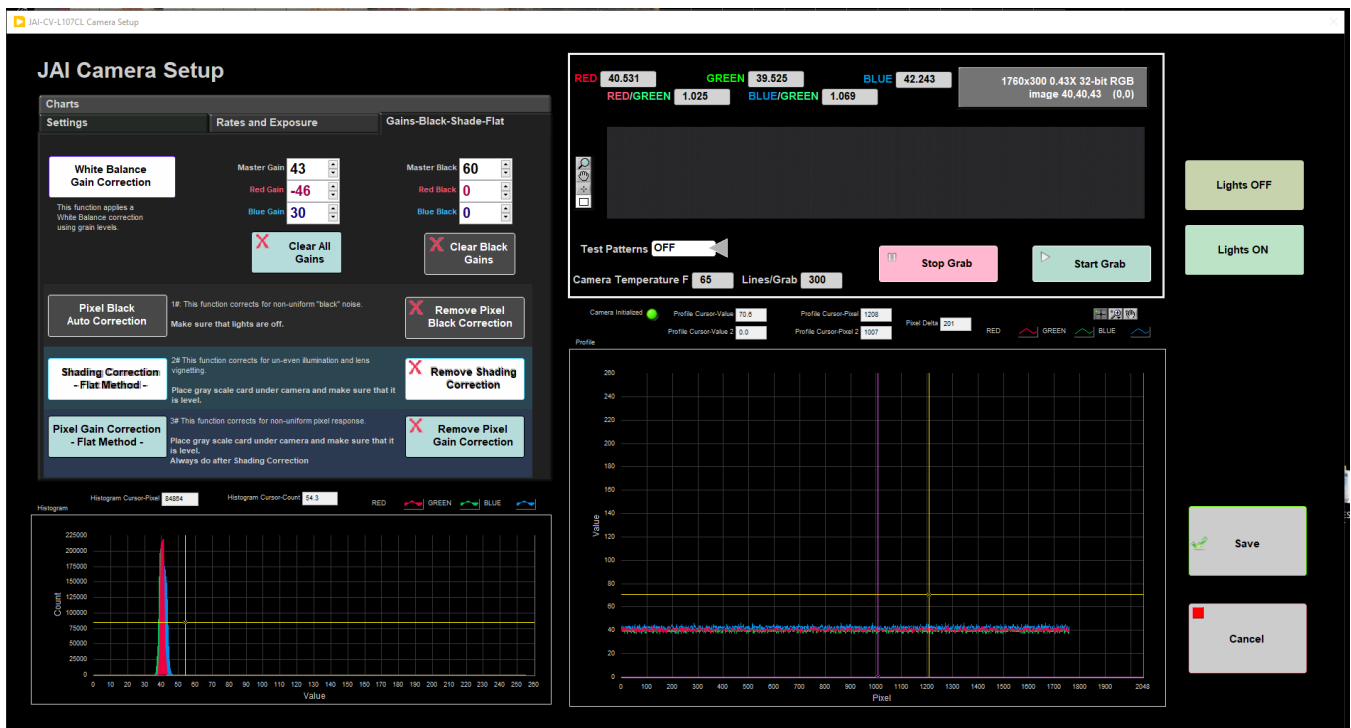

Figure 27. Image grab and profile after the Shading Correction has been applied.
6. Click the **Shading Correction - Flat Method** button. This can take a few seconds, don't click anything else until it is done. The RGB lines should now be flat (Figure 27).